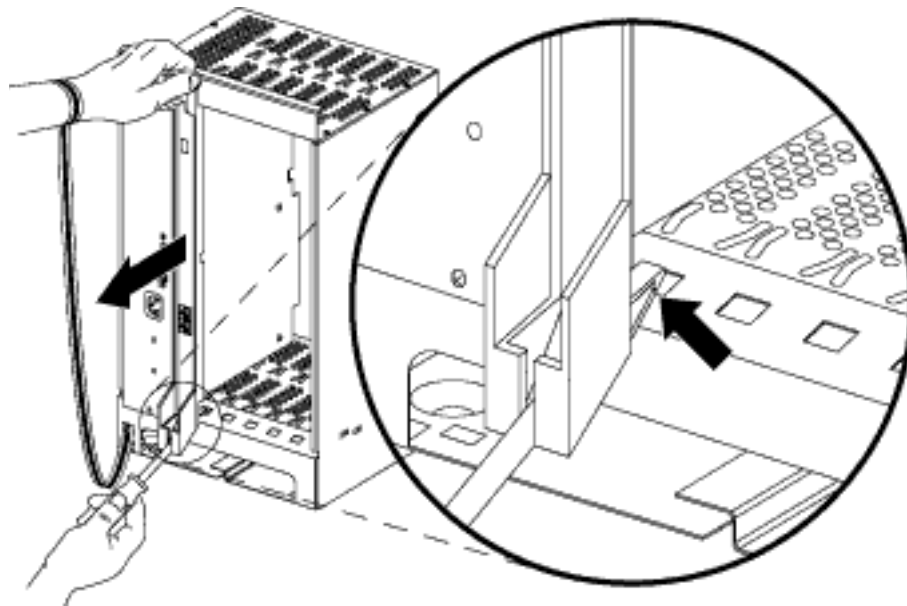

Figure 2-8. Removing a Module
- *To remove and replace a module in a carrier, follow the steps below. See Figure 2-8.*
3. Remove the module from the carrier. Follow these steps (see Figure 2-8 below).